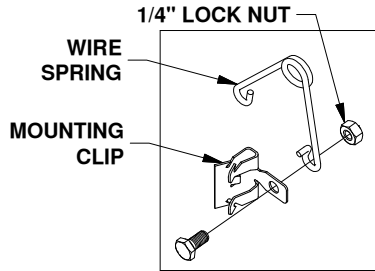
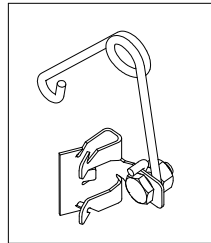

FIGURE E1:
FIGURE E2:
1. Locate the 1/4" cap screw and nut, along with the wire tension spring and mounting clip. Pass the 1/4" cap screw through the mounting clip and the wire spring as shown in figure E1. Thread the 1/4" lock nut onto the 1/4" cap screw. Tighten the lock nut just enough that the spring will stay in place but will still be able to rotate around the bolt if needed, see figure E2.